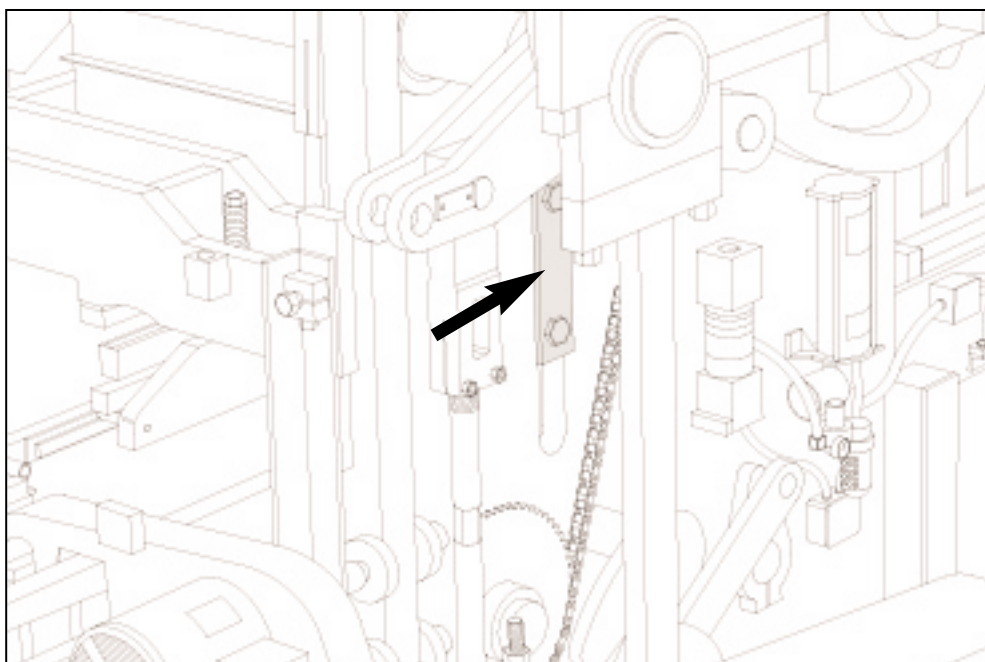

Figure 4.33 LOOSEN "T" CLAMPS ON BOTH SIDES.
- a. Loosen the "T" clamps on each side of machine that secures machine side plate to mold throat plate (figure 4.33).